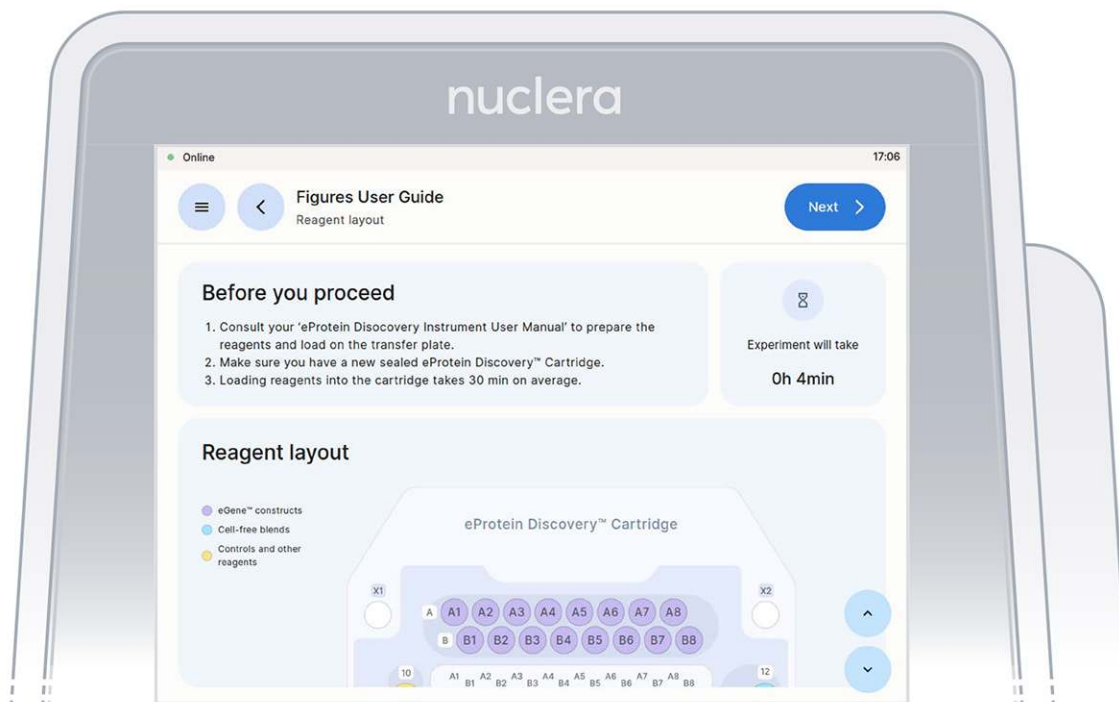

Figure 8: Instrument software welcome page with the list of finalized experiments
4. Read the **Before you proceed** section and press the **[Next]** button (Figure 8).